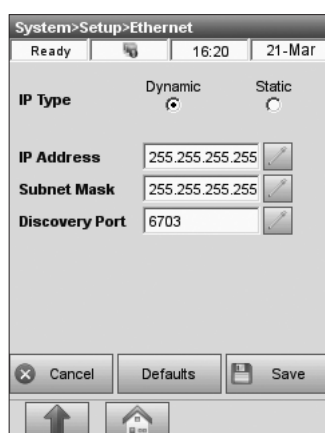

Fig. 3-84 Ethernet Settings
3. The **<System>Setup>Ethernet>** menu will appear (Fig. 3-84).